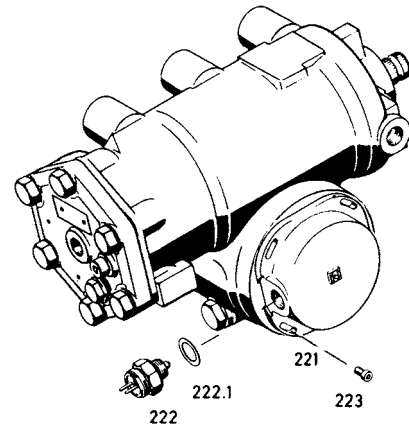

Fig. 17
Starting from mid-position, rotate the steering gear to the left and to the right. The contact of the switch (222) must open after drop arm travels of $5^\circ (\pm 10\%)$, each ($110^\circ \pm 10\%$ drop arm travel corresponding to 0.3 steering wheel turns) (**Fig. 17**). Make sure that the steer angles to the left and to the right are uniform. If required, correct the symmetry of the switching range by rotating the cover (221).